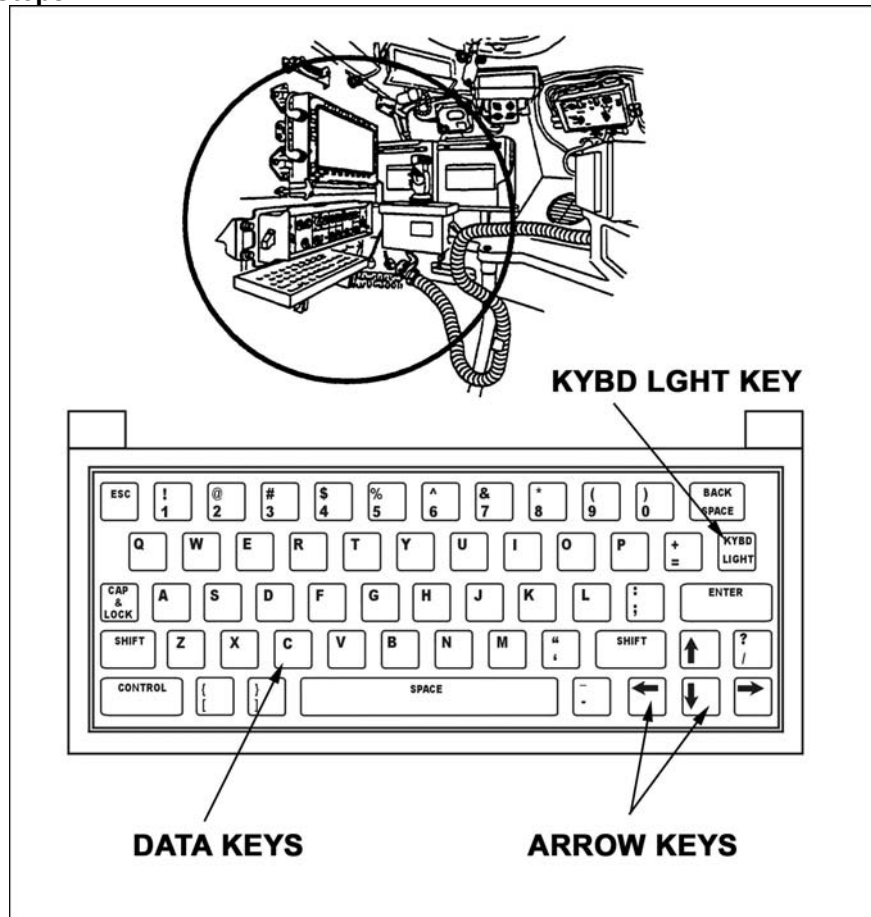

Figure 4. Commander's data entry tool (CDET).
- (1) Press and release the enter (ENT) button to select or enter data.
- (2) Press and release the up arrow to move the cursor up a small distance.
- (3) Press and release the right arrow to move the cursor right a small distance.
- (4) Press and release the down arrow to move the cursor down a small distance.
- (5) Press and release the left arrow to move the cursor left a small distance.
- (6) Press and hold any of the arrow buttons for approximately 1second, the cursor will move at an accelerated rate.
b. Use the commander's data entry tool (CDET)(Figure 4).